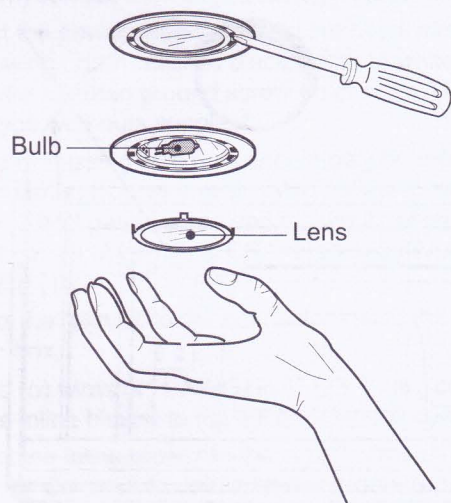

Figure 28: Halogen Light Replacement
1. Using a flat edge from a screwdriver or equivalent tool, pry loose the lens cover, as shown in Figure 28.